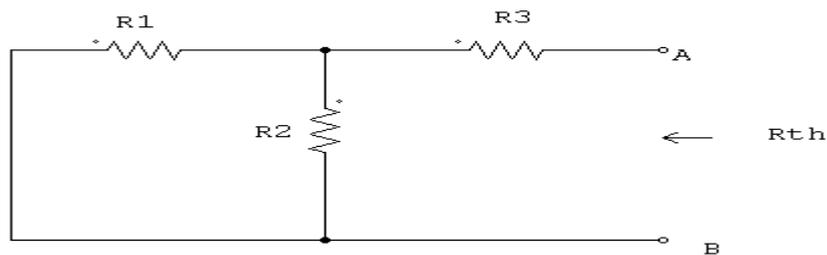

Fig.1.45
Step 1: Find Thevenin's equivalent resistance R_{th} for the given circuit. To find R_{th} open the load resistance and replace the voltage source by its internal resistance (or) replace by short if it's internal resistance is zero. Circuit is redrawn as in Fig.1.45 to find R_{th} .